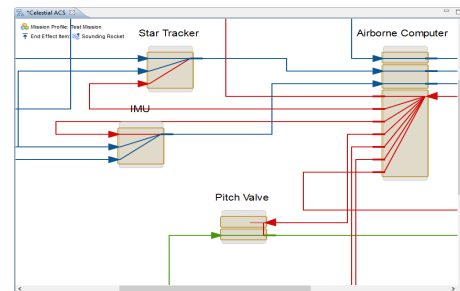

Figure B8: Model blocks input and output nodes
After the *Functions* and *Flows* are defined for all the components, the FBD will automatically show input and output nodes in the model (Figure B8). These nodes are color-coded by type (**Material**, **Energy**, and **Data**), and the model should have an output or outputs associated with each input.
- 3) Use the cursor to drag and connect the appropriate input/output FBD nodes to have a functionally interconnected model (Figure B8 and A9).